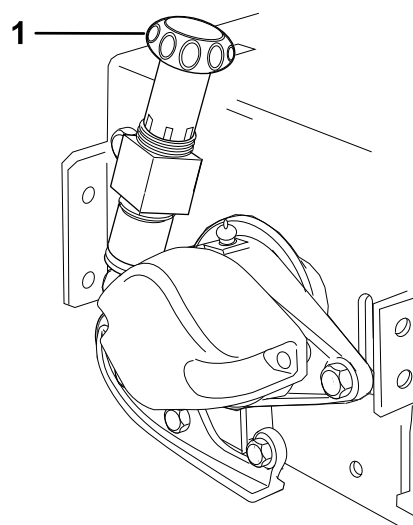

Figure 6
8. Modify the cylinder-adjustment handwheel assemblies on cutting unit 3 to the angled-back position as follows (Figure 6):
10. Modify the cylinder-adjustment handwheel assemblies on cutting unit 4 to the angled-back position as follows; refer to Figure 6: